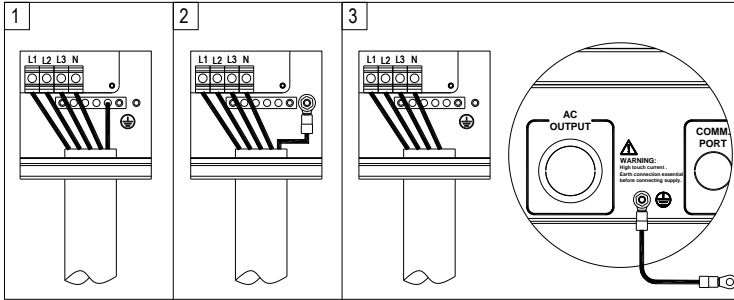
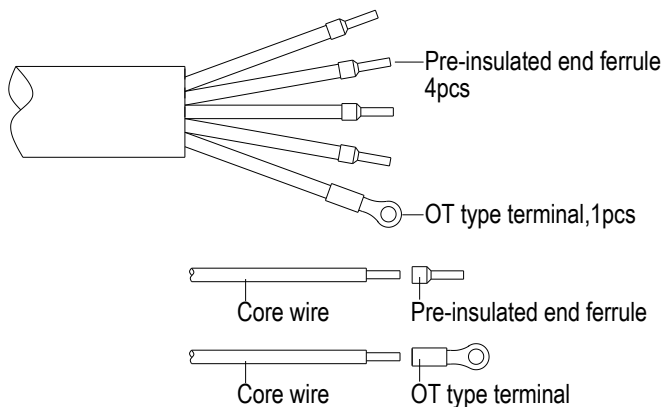
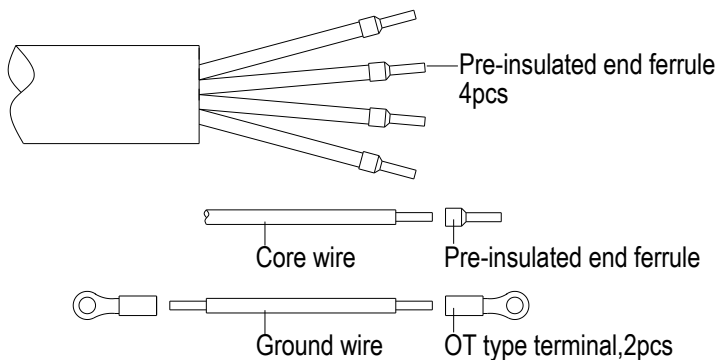

Figure 3-24 AC output and ground cable connection
Figure 3-26 AC output and ground cable set up
Figure 3-27 AC output and ground cable set up
- (1) Connect the AC (L1, L2, L3, N) cables to the terminal block and the ground cable to the grounding bar. (see the 1st graph in Figure 3-24)
- (2) Connect the AC (L1, L2, L3, N) cables to the terminal block and use the OT type terminal to connect the ground cable to the internal grounding stud inside the wiring box. (see the 2nd graph in Figure 3-24) Set up the cables referring to Figure 3-26.
- (3) Connect the AC (L1, L2, L3, N) cables to the terminal block and use the OT type terminal to connect the ground cable to the external grounding point at the bottom of the wiring box. (see the 3rd graph in Figure 3-24) Set up the cables referring to Figure 3-27.